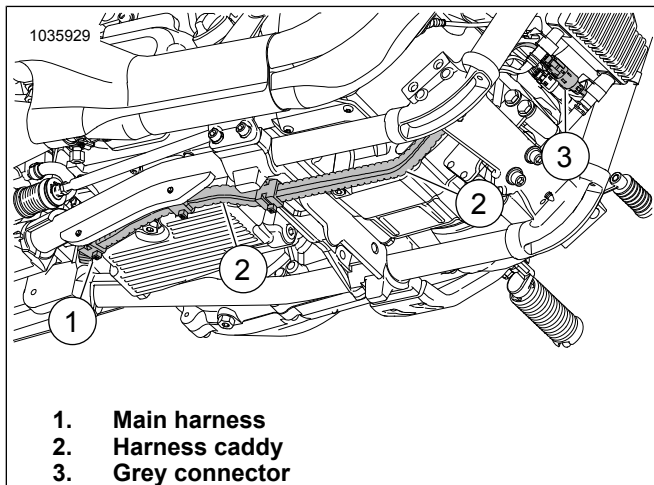

Figure 43. Harness Caddy
12. See Figure 43. Route grey harness connector out of the back battery compartment:
- a. Locate main harness (1) leading to harness caddy (2).
- c. Color match connectors (3): grey to grey.
- d. Secure harness to inboard side of harness caddy (2) with cable straps as needed.